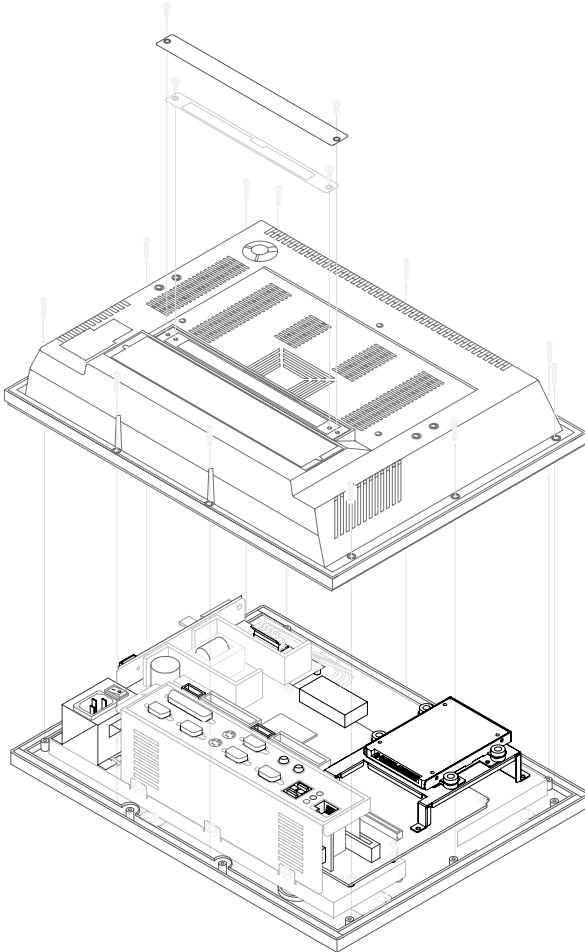

Figure 2.1: Removing the rear panel
2. Remove the rear protective cover (see Figure 2-1)